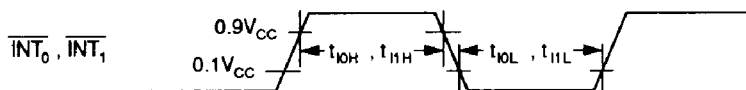

Figure 54 Interrupt Timing
4. See figure 54. The unit t_{cyc} is applied when the MCU is in standby mode or active mode.
6. See figure 54. The unit t_{SUBcyc} is applied when the MCU is in the watch mode or subactive mode. $t_{SUBcyc} = 244.14 \mu s$ (when a 32.768-kHz crystal oscillator is used.)